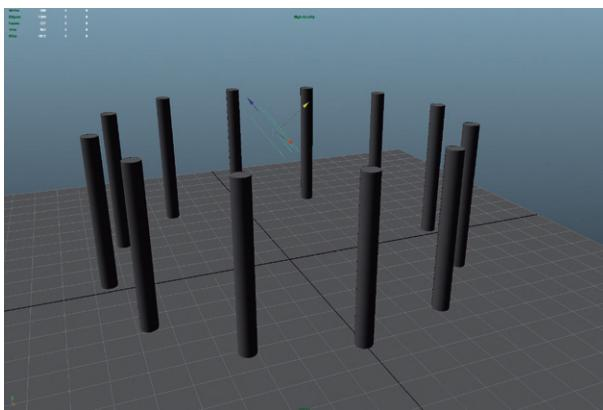

FIG 7.15 Moving the light to the middle of the cylinders.
Step 17: Move the instrument to the center of the circle of columns (Fig. 7.15).